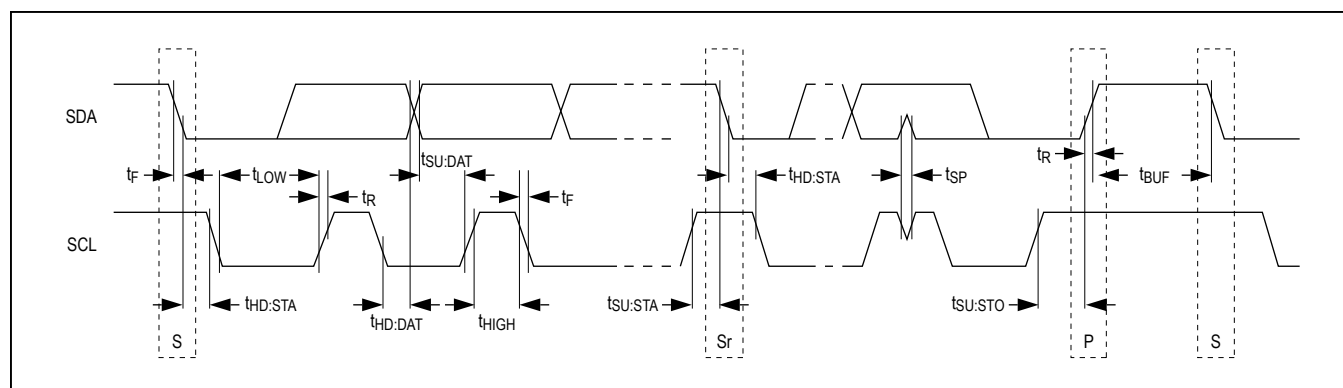

Figure 2. I²C Timing
Writing to the device using I²C requires that first the master send a START condition (S) followed by the device's I²C address. After the address, the master sends the address of the register that is to be programmed. The master then ends communication by issuing a STOP condition (P) to relinquish control of the bus, or a repeated START condition (Sr) to communicate to another I²C slave (Figure 2).